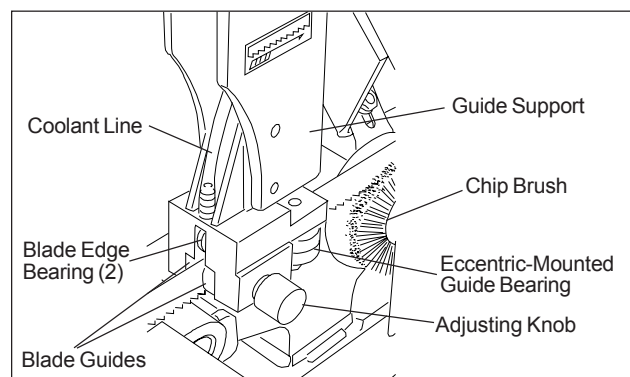

Figure 19: Carbide Blade Guide Replacement
7. Adjust the bearings on the upper edge of the blade until they just contact the blade (see figure 19).
Replacement of Carbide Blade Guides (see figure 19)
Replacement of Guide Bearings (see figure 19)